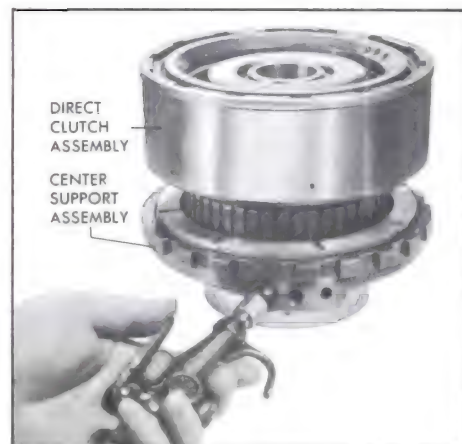

Figure 5-645
16. Place direct clutch assembly over center support and air check operation of direct clutch. See Figure 5-645.